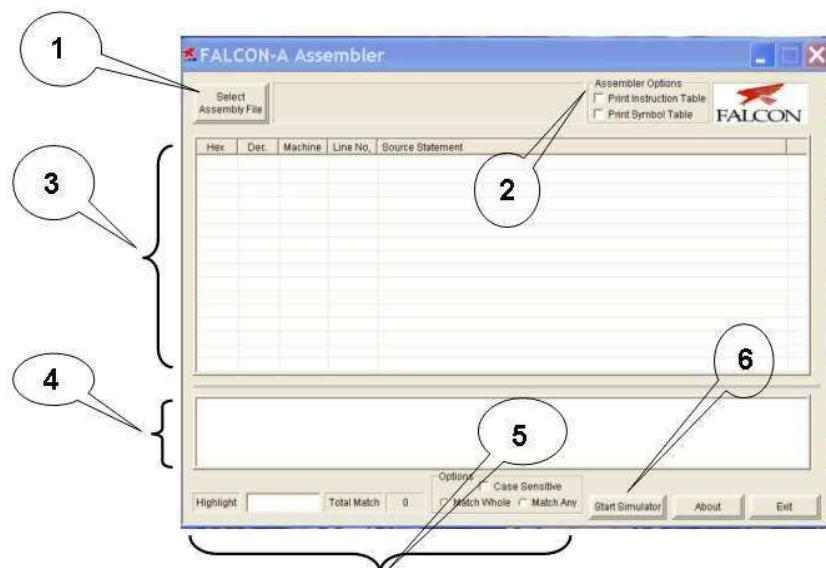

Figure 1
Figure 1 shows a snapshot of the graphical user interface (GUI) for the FALCON-A Assembler. This tool loads a FALCON-A assembly file with a (.asmfa) extension and parses it. It shows the parsed results in an error log, lets the user view the assembled file's contents in the file listing and also provides the features of printing the machine code, an Instruction Table and a Symbol Table to a FALCON-A listing file. It also allows the user to run the FALCON-A Simulator.
*Select Assembly File:* Labeled as “1” in Figure 1, this feature enables the user to choose a FALCON-A assembly file and open it for processing by the assembler. *Assembler Options:*
Labeled as “2” in Figure 1.
*List File:* Labeled as “3”, in Figure 1, the List File feature gives a detailed insight of the FALCON-A listing file, which is produced as a result of the execution of the 1st and 2nd-pass. It shows the Program Counter value in hexadecimal and decimal formats along with the machine code generated for every line of assembly code. These values are printed when the 2nd-pass is completed.
*Error Log:* The Error Log is labeled as “4” in Figure 1. It informs the user about the errors and their respective details, which occurs in any of the two passes of the assembler. The size of this window can be changed by dragging the boundary line up or down.
*Highlight:* This feature is labeled as “5” in Figure 1 and helps the user to search for a certain input with the options of searching with “**match whole**” and “**match any**” parts of the string. The search also has the option of checking with/without considering “**case-sensitivity**”. It searches the List File area and highlights the search results using the yellow color. It also indicates the total number of matches found.
*Start Simulator:* This feature is labeled as “6” in Figure 1. The FALCON-A Simulator is run using the FALCON-A Assembler’s “Start Simulator” option. Its features are detailed as follows:
- To start FALSIM (the FALCON-A assembler and simulator), double click on the FALSIM icon. This will display the assembler window, as shown in the Figure 1.